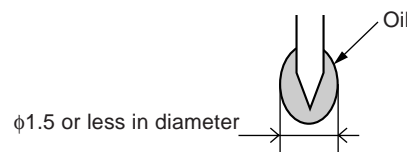
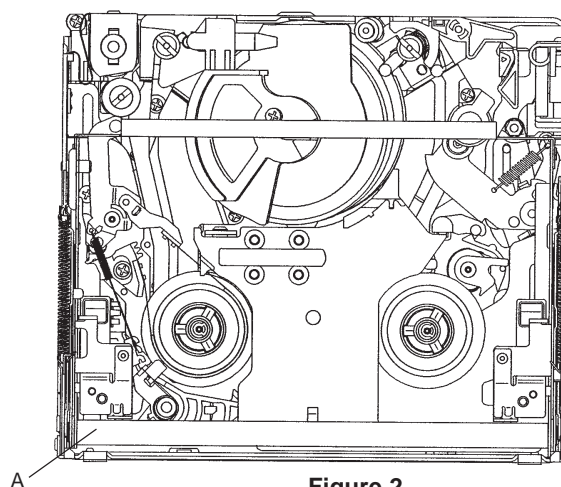

Figure 1
Figure 2
- (1) Any cut washers, once removed for parts replacement or for other reason, must be replaced with new ones.
- (2) The mechanism of this VCR does not involve any volume adjustment. If the specified range is not satisfied, either cleaning or replacing the parts is required.
- (3) Oils
- c) A drop of oil represents the amount of oil which is held on the needle top as shown in Figure 1.
- (4) The circuit repair must be executed without removing the V frame.
- (5) For operating the mechanism alone, actuate it with the motor. The terminal-to-terminal voltage must be DC4V or less.
- (6) When installing the cassette control, press the part A shown in Figure 2.
- (7) Take care so that the whole mechanism is not deformed.